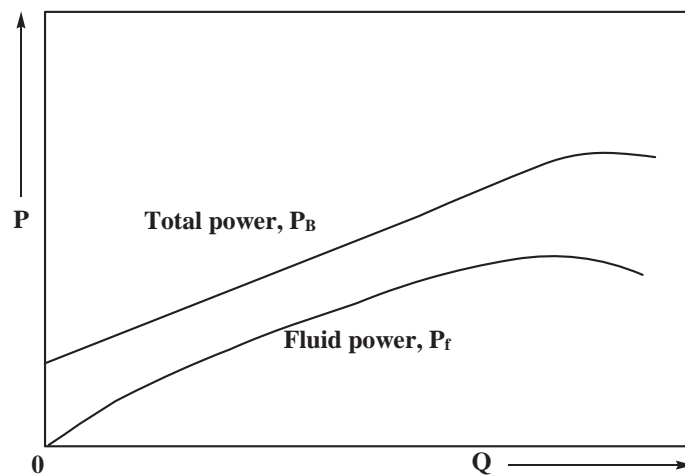

Figure 14: Power against flow rate characteristic of a centrifugal pump.
- * it is obtained from the power curve (Figure 14) which apparently shows a rapid increase with flow rate at low values.